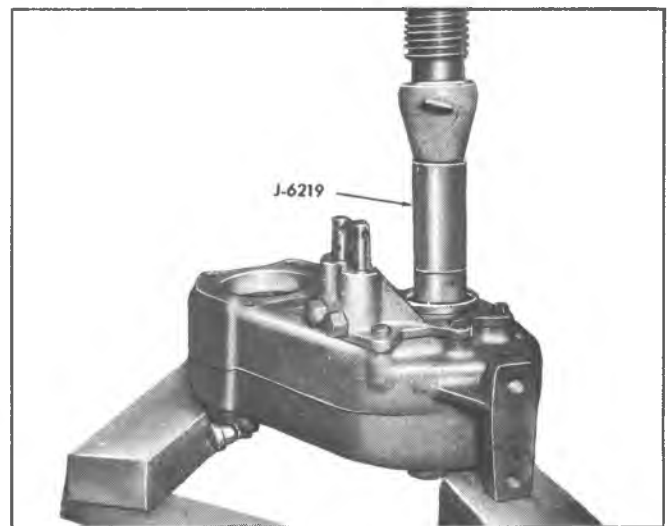

Fig. 14D--Installing Front Output Shaft Front Bearing
6. Position front bearing on shaft. Supporting rear of shaft, press bearing into position using Tool J-6219 as shown in Figure 14D. Tap front of shaft rearward to reposition rear bearing cup.